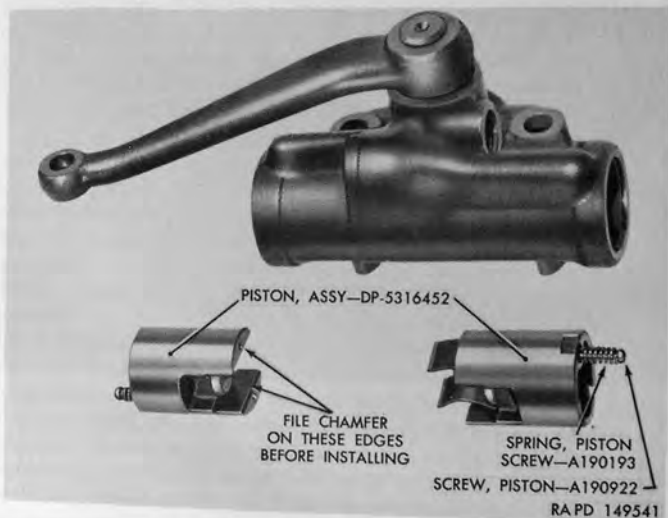

Figure 211. Piston assembly removed.
- (1) Mount shock absorber body on shock absorber rebuilding stand 41-S-4977-5. File a $\frac{1}{16}$ -inch chamfer on inner edges of compression half of piston at points indicated in figure 211 to permit ends of antirotation spring to enter piston when assembling.
- (2) Insert piston halves in cylinder, with the half having antirotation spring opposite the arm end of the shock absorber, and with cam clearance side of piston halves toward top of shock absorber.
- (3) Install piston screws (D) and piston screw springs (E) in piston. Tighten screws; then back off each screw 1 to $1\frac{1}{2}$ turns to prevent binding between cam and thrust buttons. Install new expansion plug (C) in screw hole in outer end of each piston half.